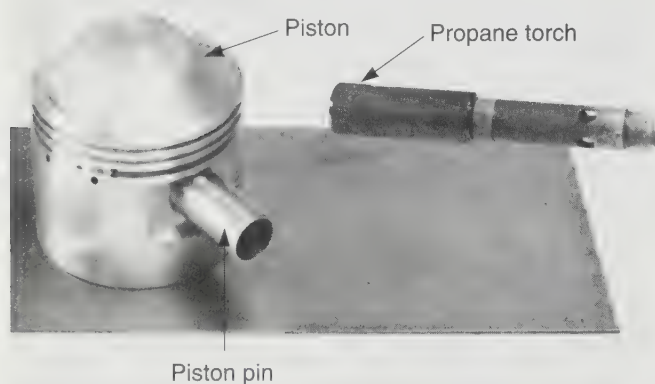

Figure 20-61. A propane torch can be used to warm the piston so the pin will move freely into place. Be careful not to over-heat the piston.
4. Install the pin through one side of the piston before placing it over the connecting rod. Most piston pins are slip fit into the pin boss. If the pin does not slip freely into place, it may be necessary to heat the piston for installation, **Figure 20-61**.